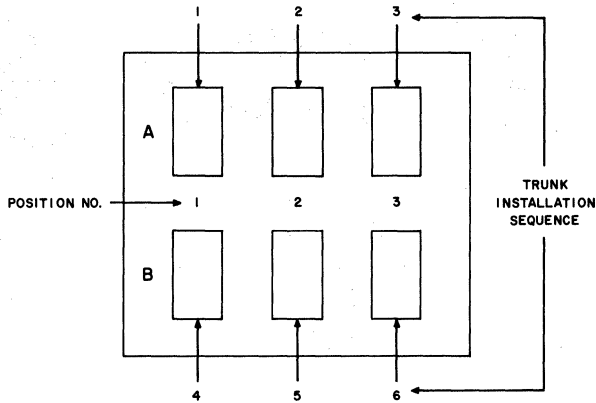

Fig. 3—Connector and Trunk Arrangement in 606A Panel
**2.03** The panel is arranged to accept six CO or PBX lines. Fig. 3 shows the connector and trunk arrangement in the 606A panel.
Lower the designation strip holder and lock down to hold the upper IUs in place. Lower the retaining clip on the guide assembly and fasten to hold the lower IUs in place. Refer to Fig. 3 for installation sequence of the IUs in the panel to correspond to the plug wiring arrangement.